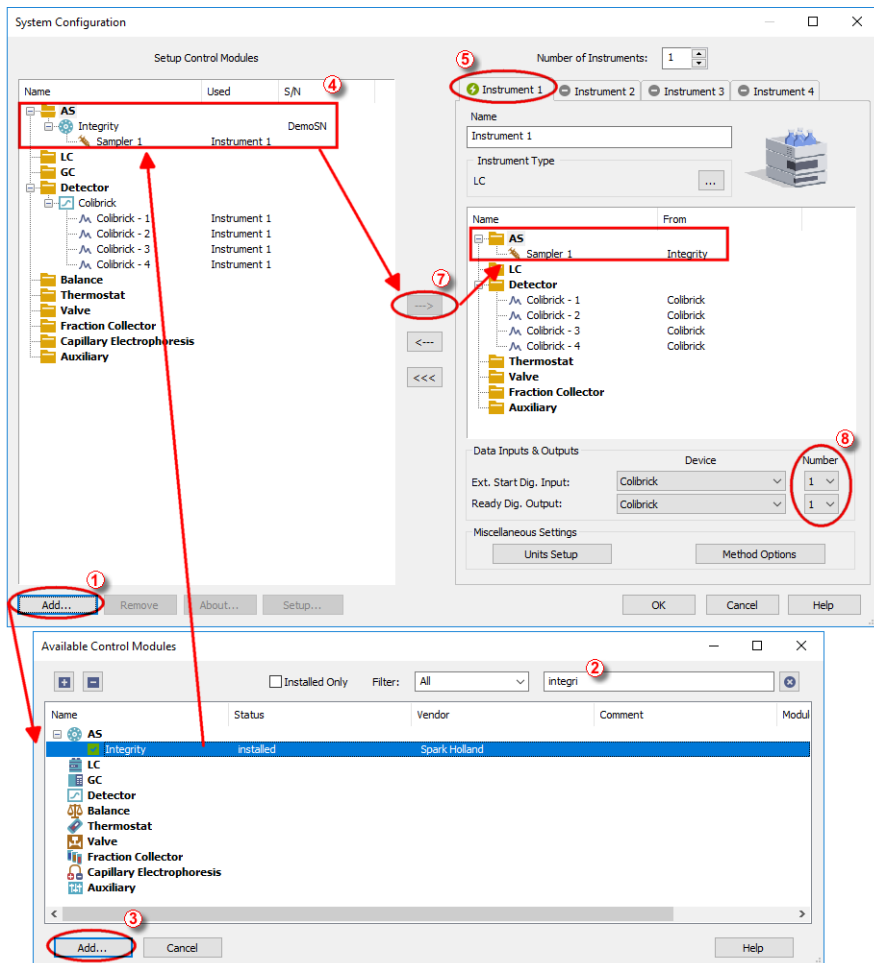

Fig 5: System Configuration
- Press the **Add** button ① (see Fig 5 on pg 7.) to invoke the **Available Control Modules** dialog.
- You can specify the searching filter ② to simplify the finding of the driver.
- Select the **Integrity** sampler and press the **Add** ③ button.